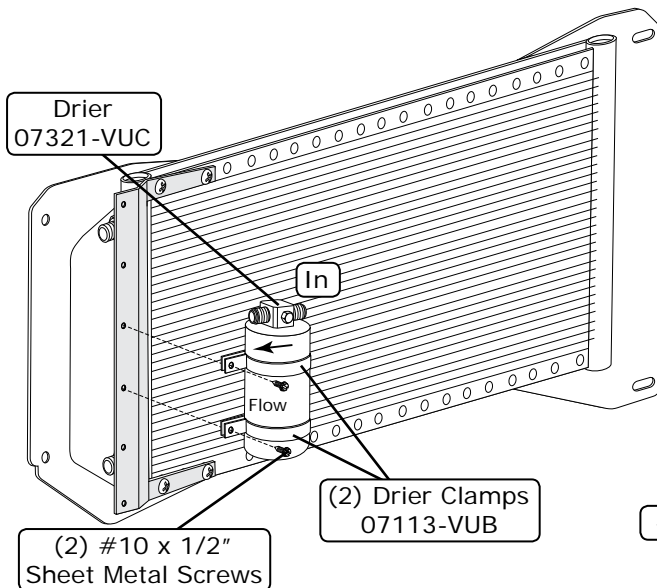

Figure 1
5. Tighten the fitting connections as shown in Figure 1, above.